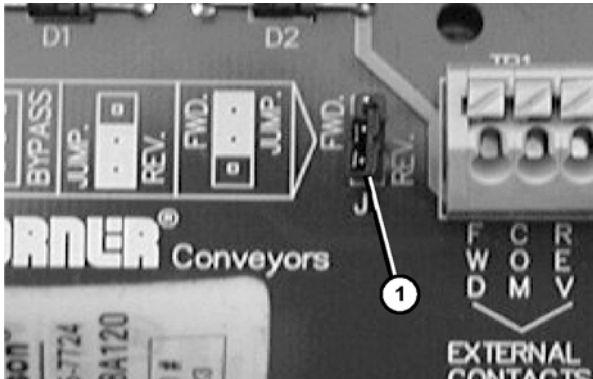

Figure 13
For forward belt movement, install the jumper (**Figure 13, item 1**) between the FWD pin and center pin, the top two pins. For reverse belt movement, install the jumper between the REV pin and the center pin, the bottom two pins. (This jumper is removed when direction is controlled from the remote machine interface terminals.)